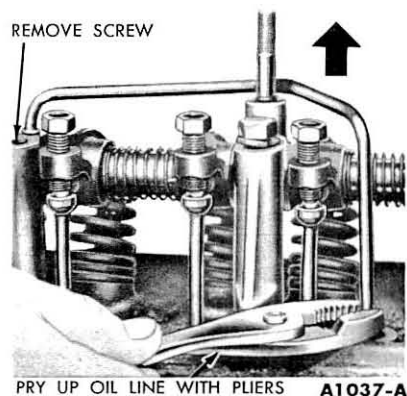

FIG. 10—Oil Inlet Line Removal
6. Remove the cap screw and bracket from the No. 6 valve rocker arm shaft support. Pull the oil inlet line out of the support, then pull it out of the block with pliers (Fig. 10). Be careful not to damage the line.